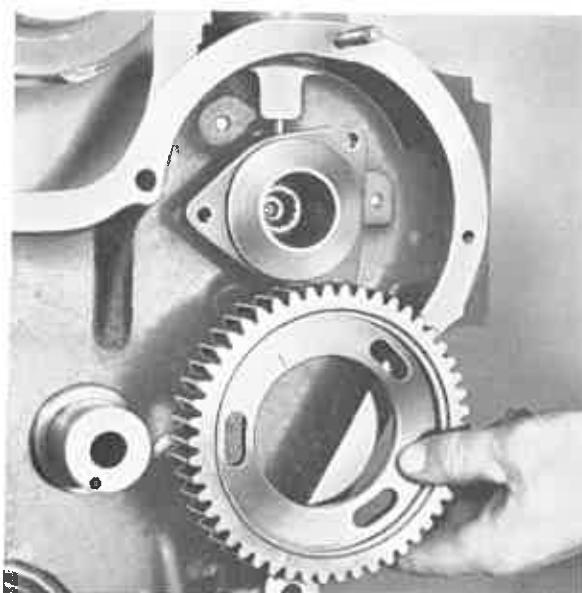

Fig. N.9. Removing Fuel Pump Drive Gear.
5. Remove the fuel pump driving gear from its hub (See Fig. N.9).